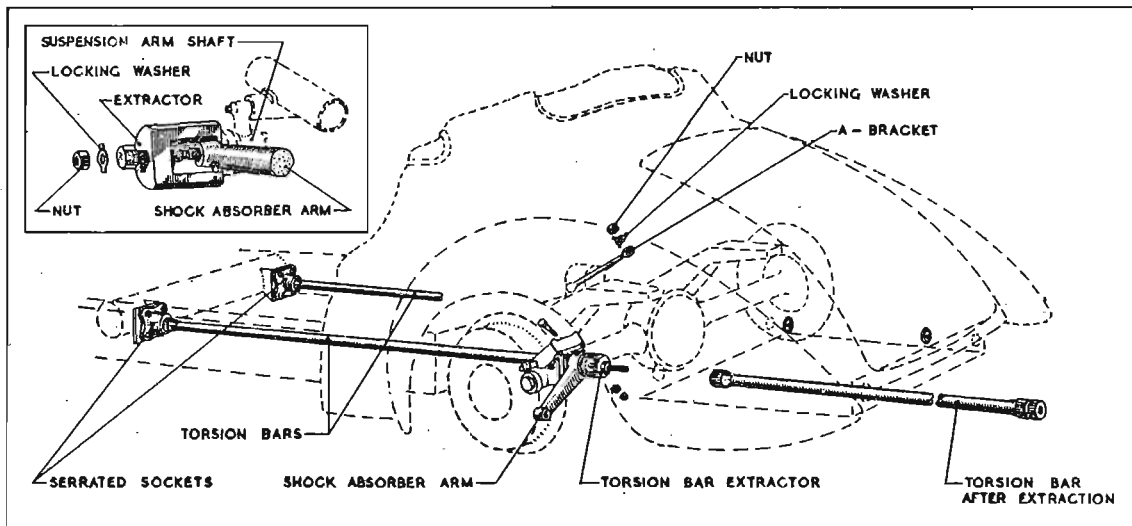

Fig. 1.
6. Using the special torsion bar extractor, T.F.N. 5026, (see fig. 1), withdraw the torsion bars sufficiently to disengage their serrated portions from the sockets at their forward ends and from the shock absorber arms.
12. Using the special extractor, T.F.N. 5005, (see Inset, fig. 1), break the taper. The back axle can now be pulled back to enable the suspension arm shafts to be withdrawn from the tapered bores in the shock absorber arms.